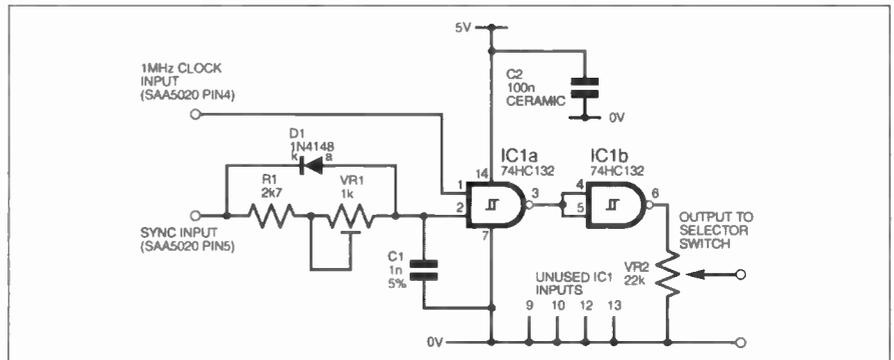

Fig.5. Circuit diagram for the Colour TV Tester Add-On.
**T**HE circuit diagram shown in Fig. 5 is an add on for my TV Test Pattern Generator (*Ingenuity Unlimited* Sept '99) to display vertical alternate black & white lines which help in setting up a TV's width and horizontal linearity. Also, if this pattern is recorded on a well aligned VCR it can be used to check back tension during servicing.